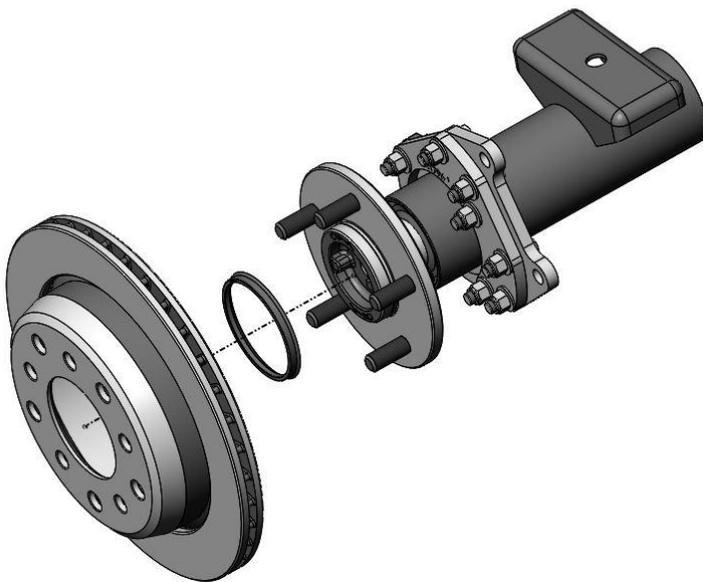
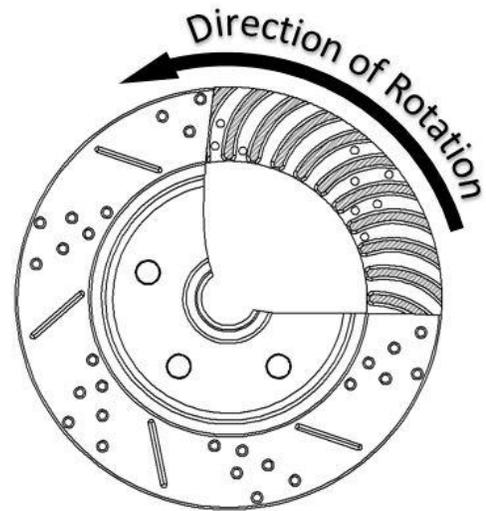

Figure 4a – Rotor and Centering Ring Installation
Figure 4b – Rotor Orientation
8. Install the rotor onto the axle flange. A Centric Ring is provided to center the rotor onto the axle shaft. Place the Centric Ring over the axle hub register. To allow the Centric Ring to go all of the way against the axle shaft flange, it may be necessary to clean the hub register with a wire brush or emery cloth. Once the Centric Ring is in place, slide the rotor over the studs against the axle flange. Verify that the rotor goes all the way against the axle flange. Figure 4a shows the proper sequence. **TIP:** To make caliper installation easier, thread a couple of flatwashers and nuts against the rotor to act as a lug nut and hold everything in place. **IMPORTANT:** If using slotted and drilled rotors, pay close attention to Figure 4b below for proper rotor placement on the driver and passenger side.